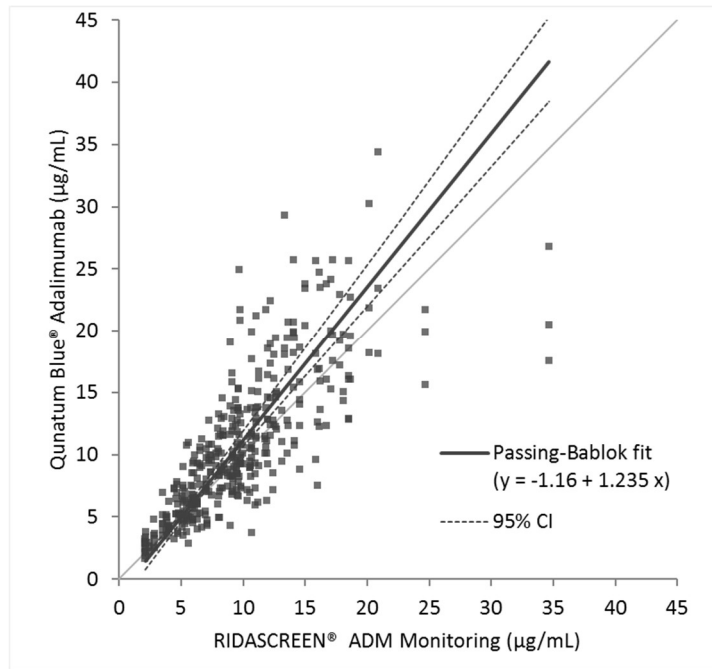

Figure 2
The method comparison study was performed according to the CLSI guideline EP09-A3. One hundred and thirty (130) clinical and contrived (3.1 % of total) samples were measured in triplicate with the Quantum Blue® Adalimumab test, resulting in 390 values, and with a commercially available adalimumab ELISA test (ref. 7). Measurements were performed over four days using two Quantum Blue® Adalimumab test cassette lots. The results are summarized in figure 2.